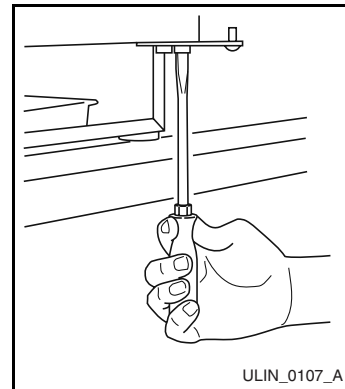

Figure 33
6. Remove bottom hinge from cabinet (four screws) and screws on opposite side of cabinet **(Figure 33)**.